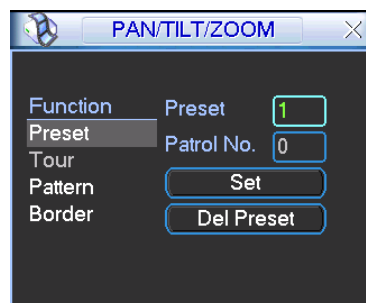
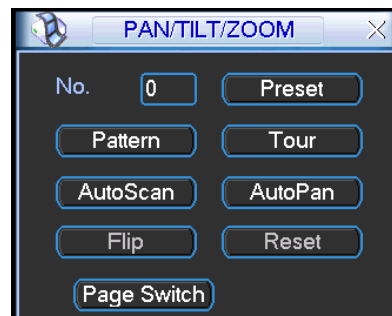
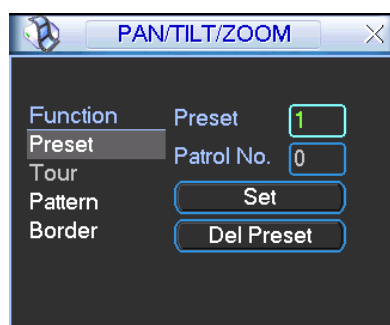

Figure 4-35
Figure 4-36
Figure 4-37
In Figure 4-32, click the “set” button. The interface is shown as below. See Figure 4-35.
In Figure 4-32, click page switch button, the interface is shown as in Figure 4-36.
- The following setups are usually operated in the Figure 4-32, Figure 4-35 and Figure 4-36 .
In Figure 4-35, click preset button and input preset number. The interface is shown as in Figure 4-37.
In Figure 4-36, please input preset number in the No. blank, and click preset button.
In Figure 4-35, click patrol button. The interface is shown as in Figure 4-38. Input preset number and add this preset to a patrol (tour). For each patrol (tour), you can input max 80 presets.
In Figure 4-35, input patrol (tour) number in the No. blank and click patrol button
In Figure 4-35, click pattern button and then click “begin” button. The interface is shown as in Figure 4-39. Then you can go to Figure 4-32 to modify zoom, focus, and iris.
In Figure 4-36, input mode value in the No. blank, and click pattern button.
In Figure 4-35, click border button. The interface is shown as in Figure 4-30.
In Figure 4-36, click “Auto Scan” button, the system begins auto scan. Correspondingly, the auto scan button becomes Stop button. Click stop button to terminate scan operation.
In Figure 4-36, click page switch button, you can see an interface is shown as below. See Figure 4-41. Here you can set auxiliary function. The aux value has relation ship with the Aux button of the decoder.